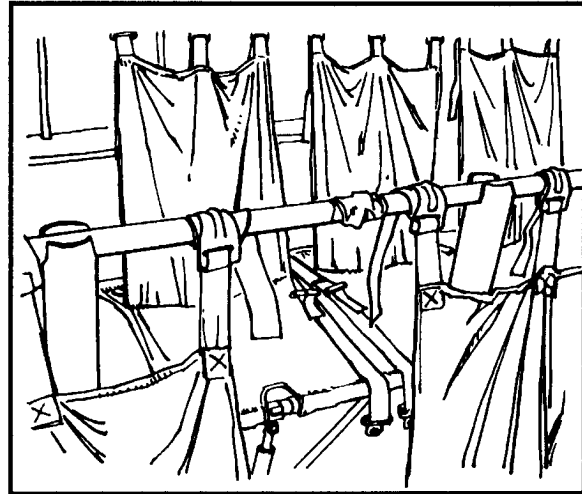

Figure 19-9. CH-54 horizontal supports taped.
(1) Both rear loading ramps are removed.
(2) The seats are placed in two rows (12 seats each) facing starboard with the outboard seats on the port side of the pod and the inboard seats on the centerline. The last three tie-down rings (numbers 14A-E through 16A-E) are not used.
(3) The ends of the top horizontal supports on the back of the center row of seats are taped between each seat section to prevent items from becoming entangled in the seat back supports (Figure 19-9).